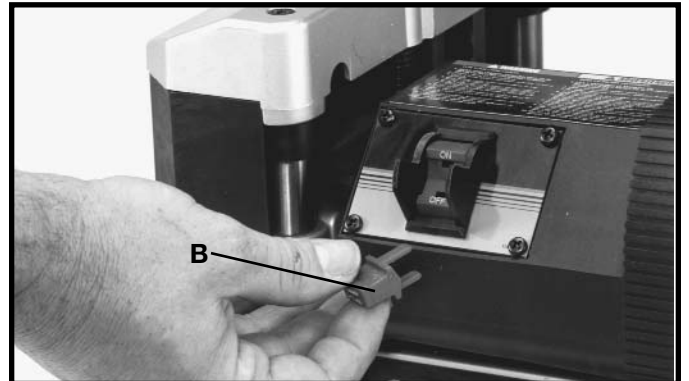

Fig. 15
When the tool is not in use, the switch should be locked in the **“OFF”** position to prevent unauthorized use. This can be done by grasping the switch toggle (B) Fig. 15, and pulling it out of the switch, as shown. With the switch toggle removed, the switch will not operate. However, should the switch toggle be removed while the machine is running, the switch can be turned **“OFF”** once, but cannot be restarted without inserting the switch toggle.